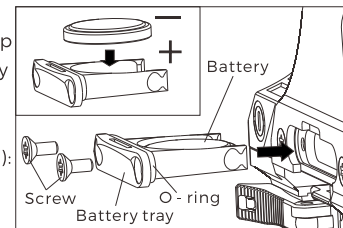

Fig 3-2
b. Battery installation (Fig 3-2):